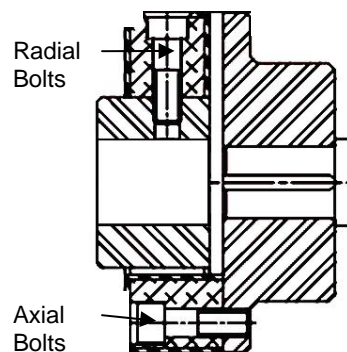

Figure 3
5. Attach the rubber element to the flange hub using the axial screws as shown in Figure 3. If this is the S-Style end of the coupling (not the cap screws), you will need to install the S-Pins without the element in place and proceed to the next step. Refer to Table 1 for the proper torque values when tightening these screws. Do not completely tighten these screws at this time.
a. The axial screws are longer than the radial screws for the 'S' type and floating shaft type couplings. It is always necessary to compare the screw lengths and use the shorter screws for the radial connections into the cylindrical hub or floating shaft (see figure 3).